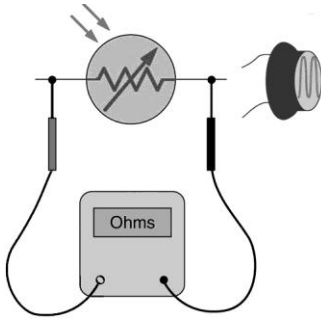

Figure 6-16 Sensor for question 26.
26. The light sensor shown in Figure 6-16 would be classified as a 26. _____